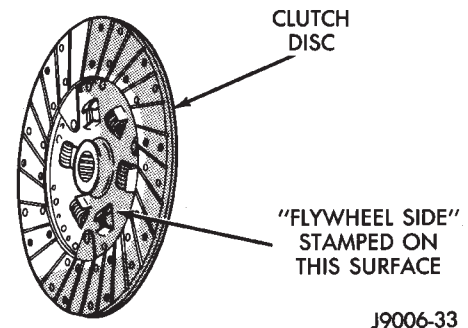

Fig. 2 Clutch Disc Position
- (1) Raise vehicle.
- (2) Remove transmission and clutch housing as assembly (Fig. 2). Refer to Group 21 for procedures.
- (3) If clutch cover will be reused, mark position of cover on flywheel with scribe, chalk, or center punch (Fig. 2).
- (4) Loosen clutch cover bolts evenly and in rotation to relieve spring tension. Loosen bolts a few threads at a time only to avoid warping cover. This is especially important if cover will be reused.
- (5) Remove cover bolts and remove cover and disc.
- (1) Reduce minor scratches or surface glazing on flywheel face with 120/180 grit emery cloth. Clean flywheel surface with Mopar brake cleaner or wax and grease remover afterward.
- (2) Check runout and free operation of new clutch disc. Install disc on transmission input shaft splines. Disc should slide freely on splines. Leave disc on shaft and check runout with dial indicator. Position indicator plunger about 6 mm (1/4 in.) from outer edge of facing. Runout should not exceed 0.5 mm (0.020 inch). Obtain another disc if runout exceeds this limit.
- (3) Lubricate crankshaft pilot bearing with Mopar high temperature grease, or equivalent.
- (4) Insert clutch alignment tool in disc and position disc on flywheel.
- (5) Verify that disc hub is positioned correctly. Side of hub marked "Flywheel Side" should face flywheel (Fig. 2).